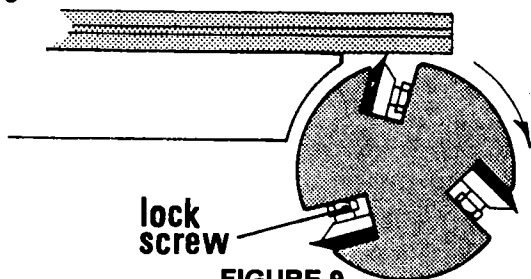

FIGURE 9
2. Place a steel straightedge on outfeed table and extend it over the cutterhead as shown in Figure 9.
3. Rotate the cutterhead by hand. If a knife is too low or too high at either end, lightly loosen the two lock screws in the knife, as shown in Figure 9. Move the knife until it barely scrapes the straight-edge, and tighten the lock screws securely. Make sure each knife does not extend more than .015 inches beyond the cutterhead.